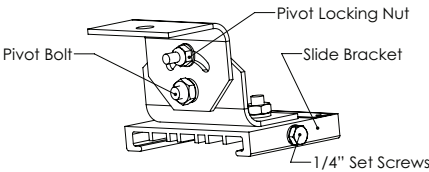

Figure 5. Swivel Mount Details
- 5. Tighten the two (2) 1/4" set screws on each slide bracket until they bottom (see Figure 5). Torque to 78 in.-lbs. (8.8 N-m).
- 6. Adjust the position of the fixture to the desired angle and tighten the two (2) 5/16" pivot bolts. Torque to 138 in.-lbs. (15.6 N-m).
- 7. Tighten the two (2) 1/4" pivot locking nuts at the adjustment slots to 78 in.-lbs. (8.8 N-m).